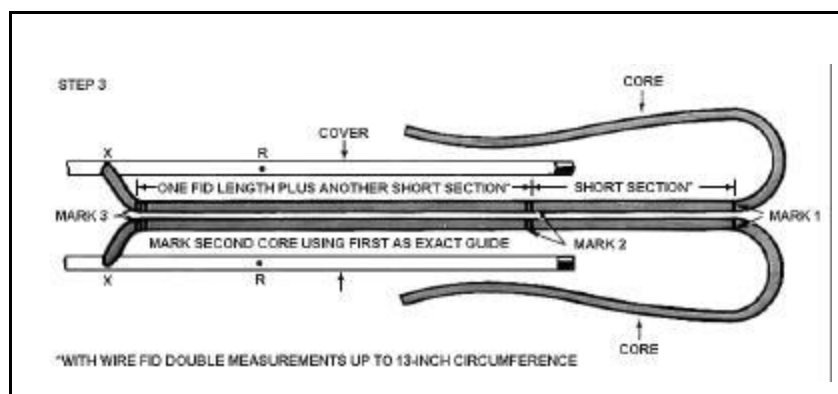

**Figure 12-66. Marking the Measurements**
- STEP 1 -- Marking the measurements.** Tape the end of each line with one thin layer of tape. Lay two lines to be spliced side by side and measure one tubular fid length (two wire fid lengths) from end of each line and make a mark. This is point R (see Figure 12-66). From point R measure one short fid section length and mark again. This is point X where you should extract core from inside the cover. Be sure both lines are identically marked. Tie a tight slip knot about five fid lengths from point X. If you require the line with the finished splice to be a certain overall length, refer to Special Tools and Techniques, paragraph 12-122, page 12-43.